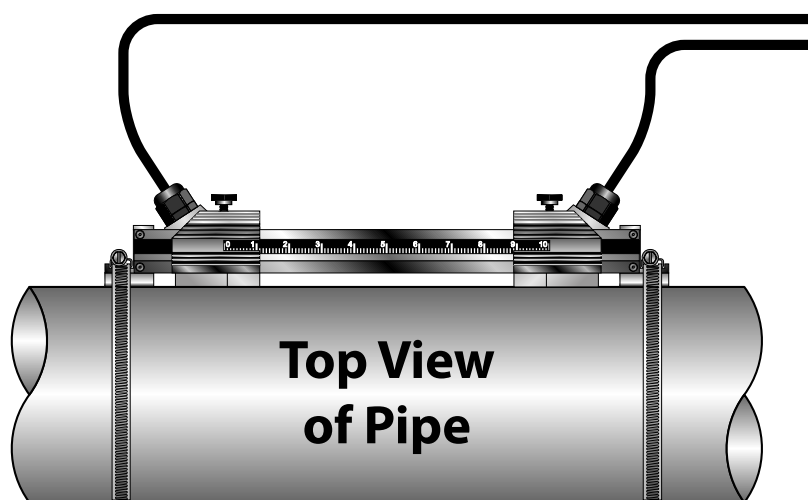

FIGURE 2.14 - MOUNTING TRACK INSTALLATION
- 5) Place the first transducer in between the mounting rails near the zero point on the scale. Slide the clamp over the transducer. Adjust the clamp/transducer such that the notch in the clamp aligns with zero on the scale. See **Figure 2.14**.